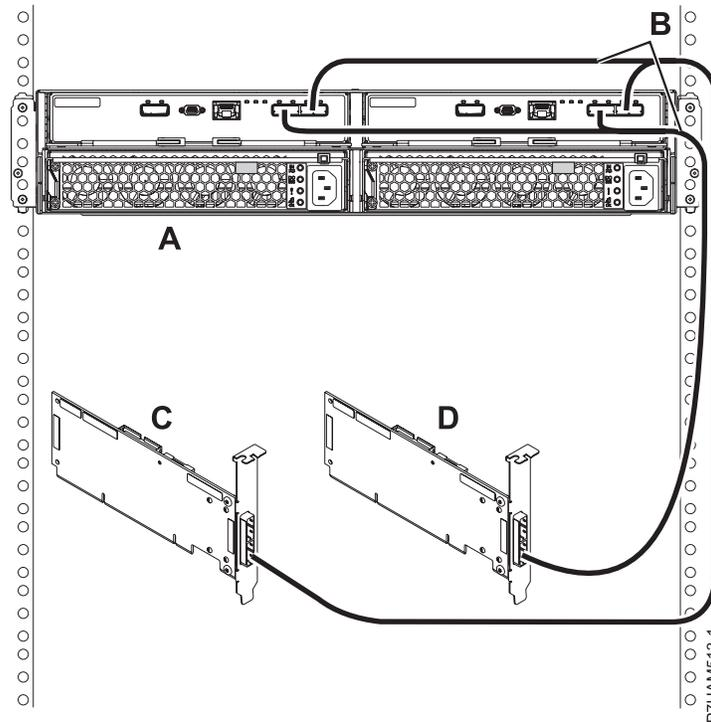

Figure 35. Mode 2 connection of one 58/87 disk drive enclosure by using YO cables to two independent SAS adapters
- o. Perform the mode 2 connection of one 58/87 disk drive enclosure (A) by using YO cables (B) to two independent SAS adapters as shown in Figure 35.